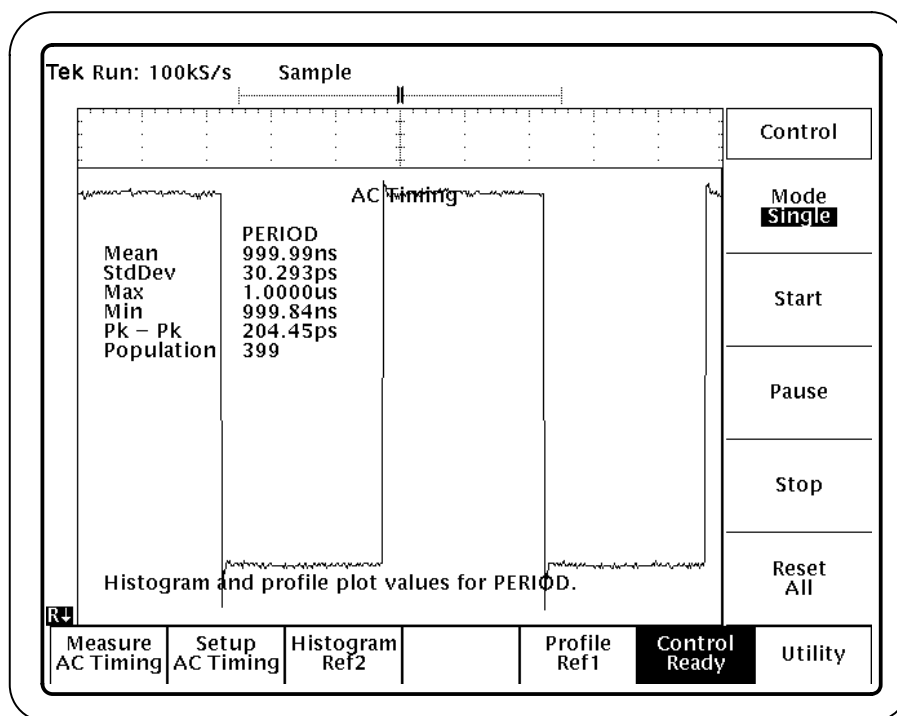

Figure 29: AC Timing lesson, Period measurement: Statistics readout
8. Wait for the calculations to complete. Figure 29 shows the Statistics readout for the Period measurement only.